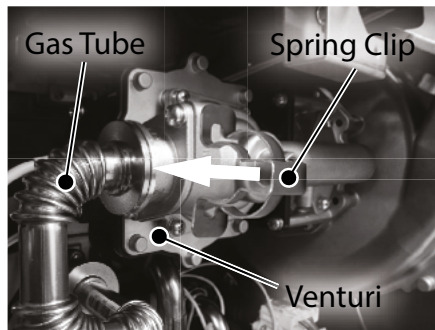

Figure 6 - Secure upper spring clip
- Locate the two spring clips previously removed. Orient spring clips properly as shown in Figures 6 & 7. Install spring clips to secure the gas tube to the venturi and gas valve. Confirm gas connections are tight and will not leak.